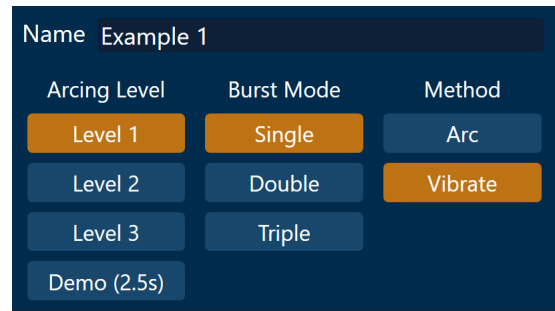

Fig. 8
- g. V-Threat-Fire SETUP Interface (Fig. 8)